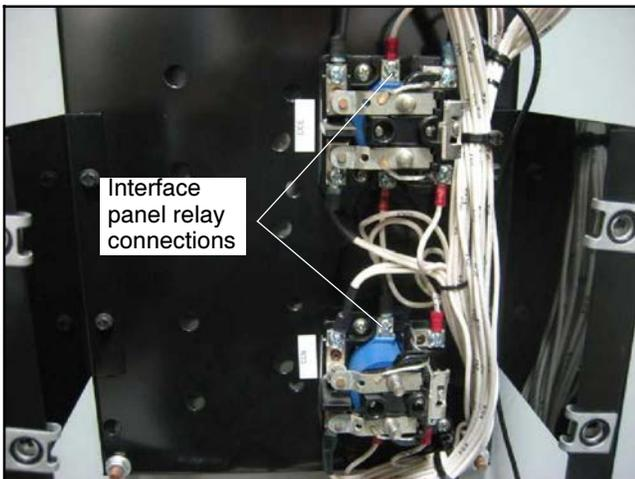
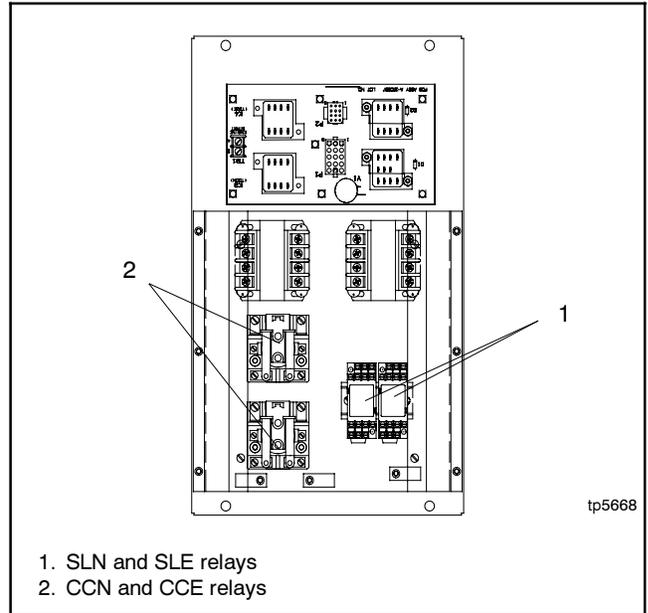

Figure 39 Disconnect Lead 33 from Interface Panel Relays (two relays not shown)
Figure 40 Interface Panel Assembly Relays, typical (relays vary by model)
- On the interface panel assembly, disconnect lead 33 from terminal 1 on the four relays on the interface panel. See Figure 39 and Figure 40.